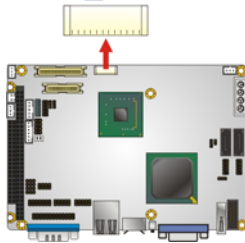

Figure 3-8: Debug Port Connector Location
- CN Location:** See Figure 3-8